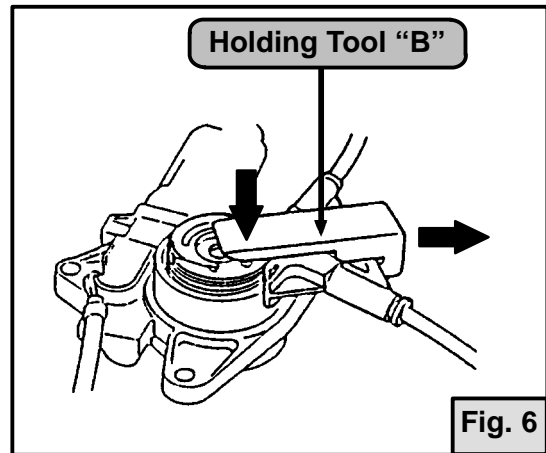

Fig. 6
- Using holding tool "B", partially insert the window regulator drum into the motor housing. (See Fig. 6)